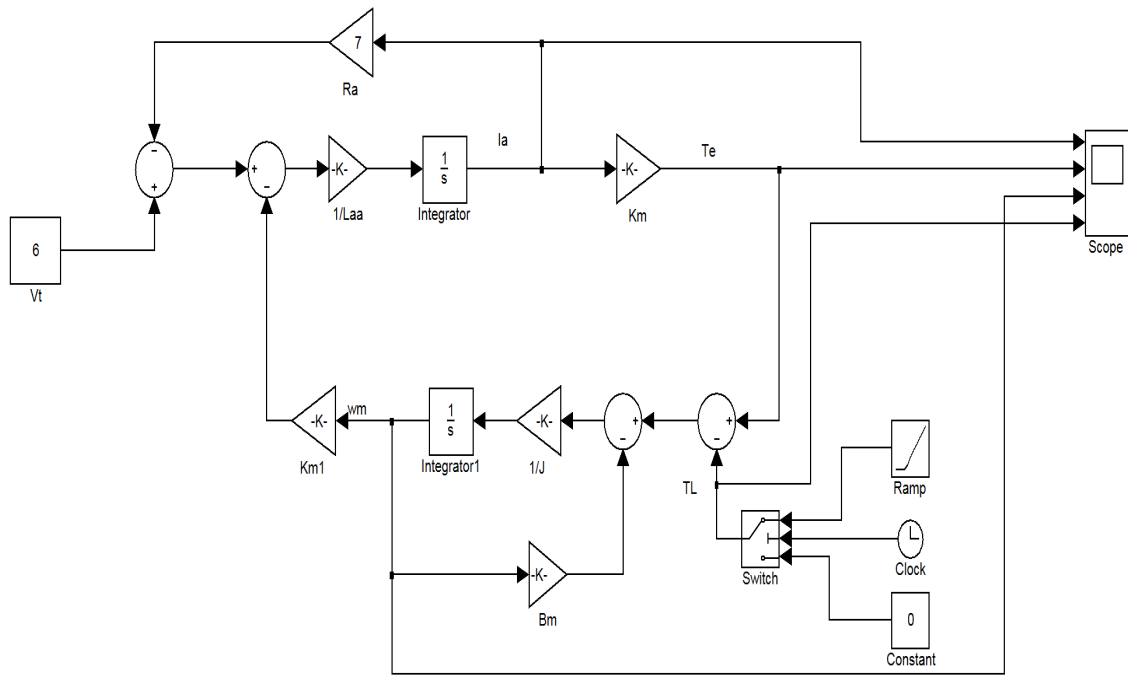

Fig. 4 Simulation diagram of permanent-magnet dc machine with load torque included.
- (iii) Drag the **clock**, **constant** and **ramp** blocks from the source menu. Flip the blocks and connect as shown in fig 4.